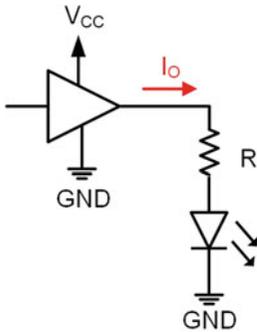

Fig. 3.42
- 3.4.39** For the LED driver configuration shown in Fig. 3.42 where an output of HIGH on the driver will turn on the LED, what is the output current (I_o) if $V_{CC} = +5$ v, $R = 50$ Ω , and the LED has a forward voltage of $V_f = 1.9$ v?
- 3.4.40** For the LED driver configuration shown in Fig. 3.42 where an output of HIGH on the driver will turn on the LED, what is the output current (I_O) if $V_{CC} = +5\text{v}$, $R = 100\ \Omega$, and the LED has a forward voltage of $V_f = 1.9\text{v}$?
- 3.4.41** For the LED driver configuration shown in Fig. 3.42 where an output of HIGH on the driver will turn on the LED, what is the output current (I_O) if $V_{CC} = +5\text{v}$, $R = 1\ \text{k}\Omega$, and the LED has a forward voltage of $V_f = 1.9\text{v}$?
- 3.4.42** For the LED driver configuration shown in Fig. 3.42 where an output of HIGH on the driver will turn on the LED, what is the output current (I_O) if $V_{CC} = +3.4\text{v}$, $R = 50\ \Omega$, and the LED has a forward voltage of $V_f = 1.9\text{v}$?
- 3.4.43** For the LED driver configuration shown in Fig. 3.42 where an output of HIGH on the driver will turn on the LED, what is the output current (I_O) if $V_{CC} = +3.4\text{v}$, $R = 100\ \Omega$, and the LED has a forward voltage of $V_f = 1.9\text{v}$?
- 3.4.44** For the LED driver configuration shown in Fig. 3.42 where an output of HIGH on the driver will turn on the LED, what is the output current (I_O) if $V_{CC} = +3.4\text{v}$, $R = 1\ \text{k}\Omega$, and the LED has a forward voltage of $V_f = 1.9\text{v}$?
- 3.4.45** For the LED driver configuration shown in Fig. 3.42 where an output of HIGH on the driver will turn on the LED, if $V_{CC} = +5\text{v}$, $R = 75\ \Omega$, $V_f = 1.9\text{v}$, and $I_{O-MAX} = 25\ \text{mA}$, is the maximum output current specification violated?
- 3.4.46** For the LED driver configuration shown in Fig. 3.42 where an output of HIGH on the driver will turn on the LED, if $V_{CC} = +5\text{v}$, $R = 150\ \Omega$, $V_f = 1.9\text{v}$, and $I_{O-MAX} = 25\ \text{mA}$, is the maximum output current specification violated?
- 3.4.47** For the LED driver configuration shown in Fig. 3.42 where an output of HIGH on the driver will turn on the LED, if $V_{CC} = +5\text{v}$, $R = 500\ \Omega$, $V_f = 1.9\text{v}$, and $I_{O-MAX} = 25\ \text{mA}$, is the maximum output current specification violated?
- 3.4.48** For the LED driver configuration shown in Fig. 3.42 where an output of HIGH on the driver will turn on the LED, if $V_{CC} = +3.4\text{v}$, $R = 75\ \Omega$, $V_f = 1.9\text{v}$, and $I_{O-MAX} = 15\ \text{mA}$, is the maximum output current specification violated?
- 3.4.49** For the LED driver configuration shown in Fig. 3.42 where an output of HIGH on the driver will turn on the LED, if $V_{CC} = +3.4\text{v}$, $R = 150\ \Omega$, $V_f = 1.9\text{v}$, and $I_{O-MAX} = 15\ \text{mA}$, is the maximum output current specification violated?
- 3.4.50** For the LED driver configuration shown in Fig. 3.42 where an output of HIGH on the driver will turn on the LED, if $V_{CC} = +3.4\text{v}$, $R = 500\ \Omega$, $V_f = 1.9\text{v}$, and $I_{O-MAX} = 15\ \text{mA}$, is the maximum output current specification violated?
- 3.4.51** For the LED driver configuration shown in Fig. 3.42 where an output of HIGH on the driver will turn on the LED with $V_{CC} = +5\text{v}$ and $V_f = 1.9\text{v}$, calculate the value of the resistor (R) in order to set the current through the LED to be $5\ \text{mA}$.
- 3.4.52** For the LED driver configuration shown in Fig. 3.42 where an output of HIGH on the driver will turn on the LED with $V_{CC} = +5\text{v}$ and $V_f = 1.9\text{v}$, calculate the value of the resistor (R) in order to set the current through the LED to be $12\ \text{mA}$.
- 3.4.53** For the LED driver configuration shown in Fig. 3.42 where an output of HIGH on the driver will turn on the LED with $V_{CC} = +5\text{v}$ and $V_f = 1.9\text{v}$, calculate the value of the resistor (R) in order to set the current through the LED to be $15\ \text{mA}$.
- 3.4.54** For the LED driver configuration shown in Fig. 3.42 where an output of HIGH on the driver will turn on the LED with $V_{CC} = +3.4\text{v}$ and $V_f = 1.9\text{v}$, calculate the value of the resistor (R) in order to set the current through the LED to be $5\ \text{mA}$.
- 3.4.55** For the LED driver configuration shown in Fig. 3.42 where an output of HIGH on the driver will turn on the LED with $V_{CC} = +3.4\text{v}$ and $V_f = 1.9\text{v}$, calculate the value of the resistor (R) in order to set the current through the LED to be $12\ \text{mA}$.
- 3.4.56** For the LED driver configuration shown in Fig. 3.42 where an output of HIGH on the driver will turn on the LED with $V_{CC} = +3.4\text{v}$ and $V_f = 1.9\text{v}$, calculate the value of the resistor (R) in order to set the current through the LED to be $15\ \text{mA}$.